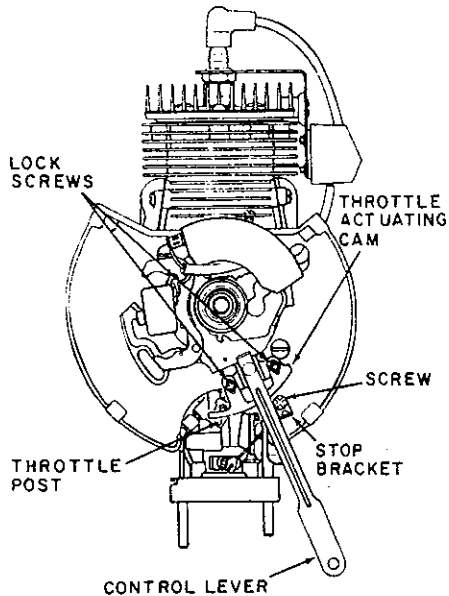

Figure 37
E. Adjust the stop bracket (Figure 37) to prevent the control lever from moving any further counter-clockwise. Tighten the stop bracket screw securely.
- E. Adjust the stop bracket (Figure 37) to prevent the control lever from moving any further counter-clockwise. Tighten the stop bracket screw securely.